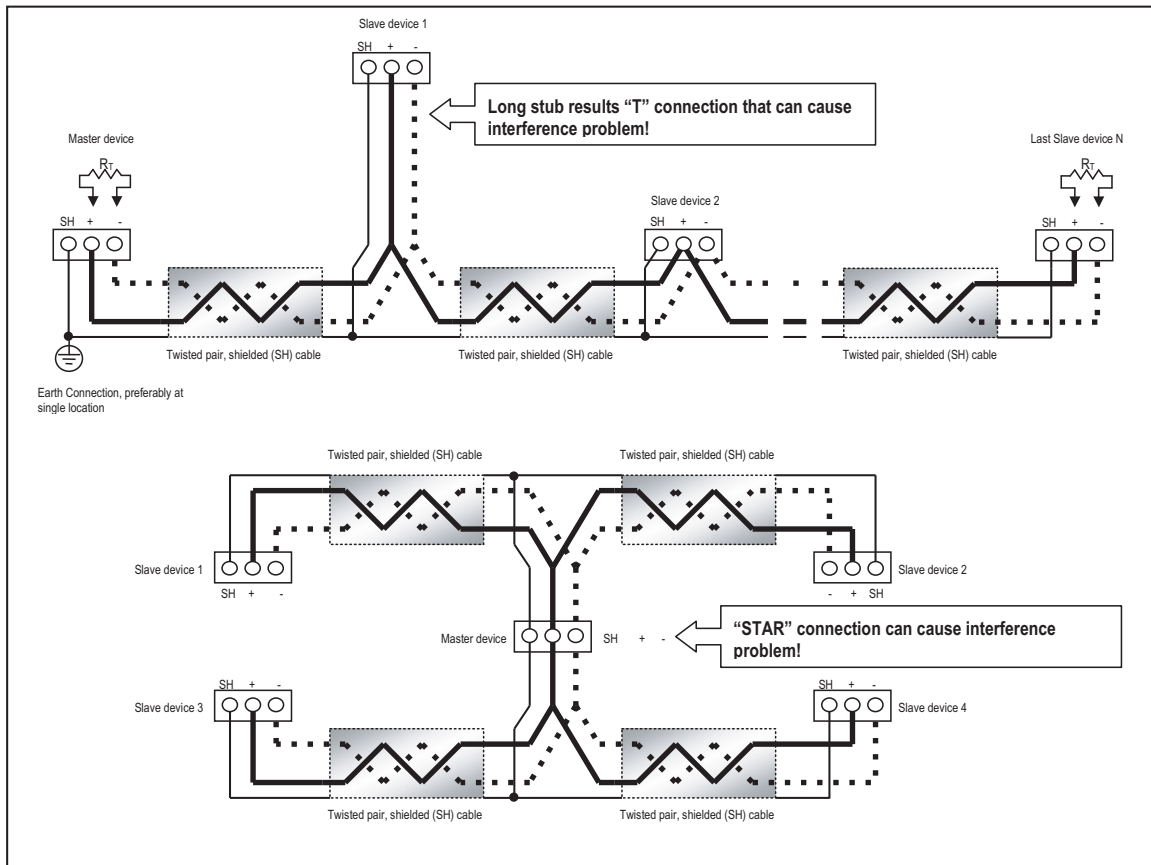

Figure 5-5: Incorrect "T" and "Star" Topologies
- Avoid both “Star” and “Tee” connections (see Figure 5.5).